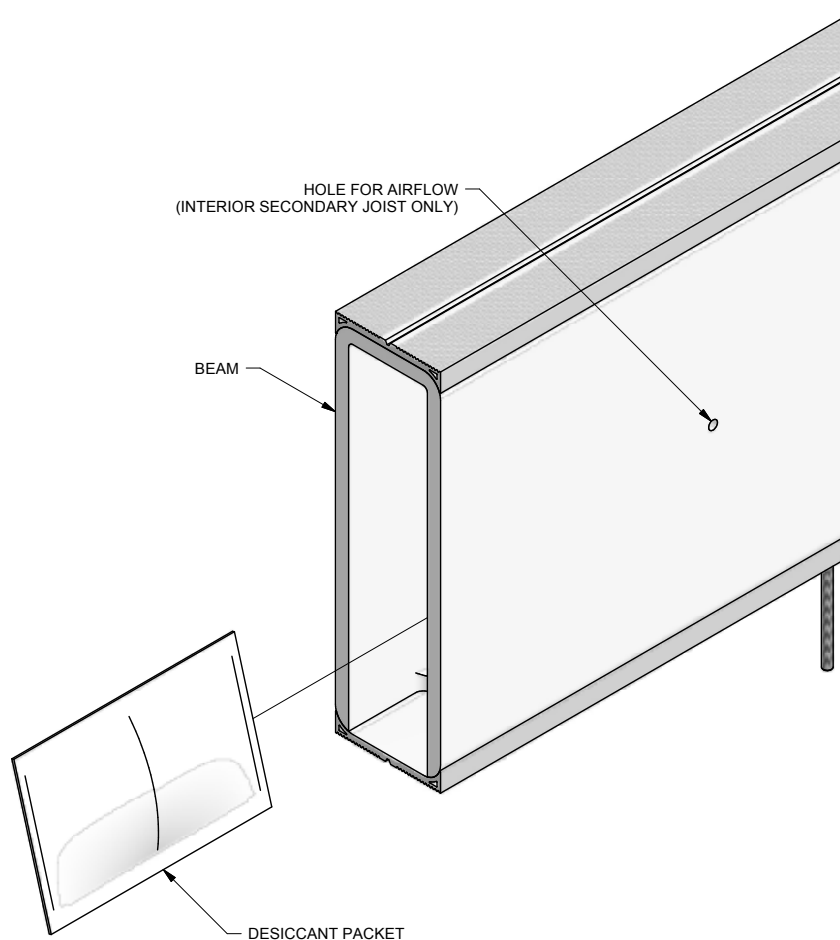

Figure 5: Desiccant Installation
2. TGP supplied project drawings will detail correct locations for the desiccant packages. Typically they will be installed in the interior secondary joists (See Step 8). They should be evenly divided between the beams they are to be installed in (See Figures 5 and 6).